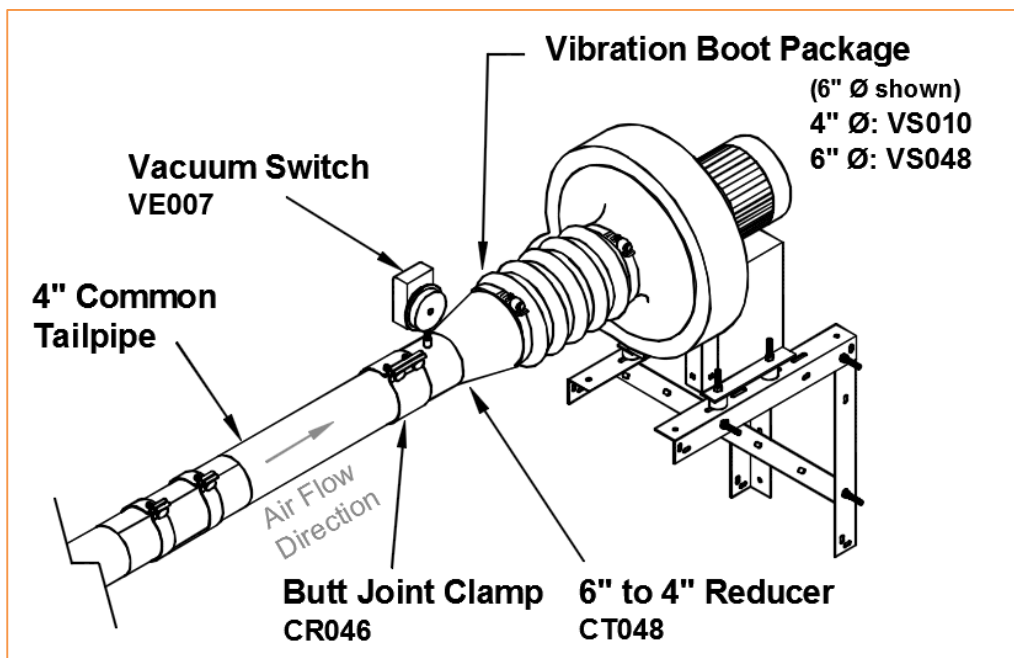

Figure 35: Tailpipe to Vacuum Pump Connections
2. Install the Flexible Boot Connector between the Reducer and Pump Inlet, to reduce vibration and noise transmission, using a gear clamp at either end, as shown in Figure 35.
6. Mount/position the Vacuum Switch onto the Radiant System as shown in Figure 35. Connect the Vacuum Switch to the Vacuum Pump and the control system as shown in the sample diagrams in the following pages.